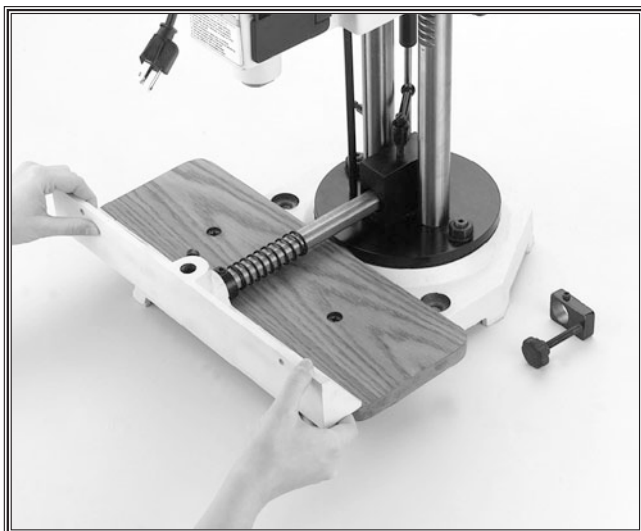

Figure 15. Slide fence support through block.
2. Slide the support rod into the mounting block located between the columns. See Figure 15.